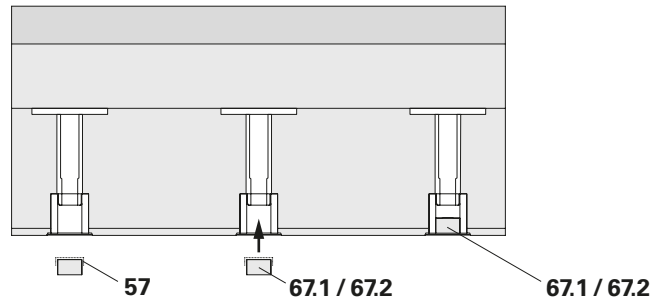

Fig. A4.03
2. Apply the prepared Repoxal adhesive to one end surface and the side surface of the Concrete Plug Ø32mm (**67.1**). (Fig. A4.03)